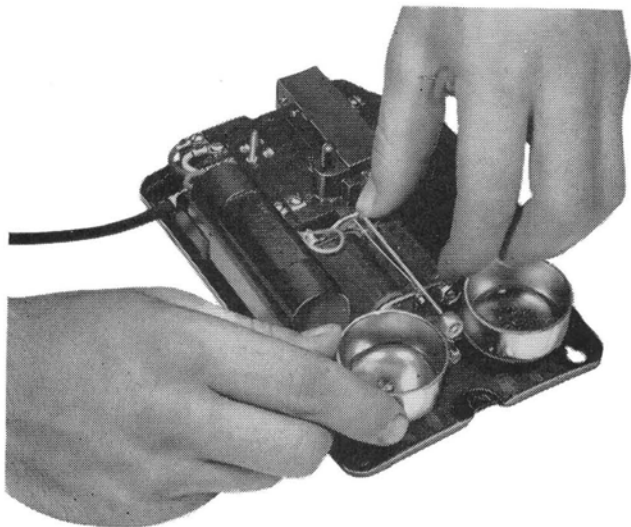

Figure 22 — Adjusting Gong Spacing
Step 1—Check the gong adjustment by holding first one and then the other side of the armature against its respective pole piece (see figure 22).
Harmonic Ringers—Merely adjust the gong spacing for the desired tone quality (see figure 22).